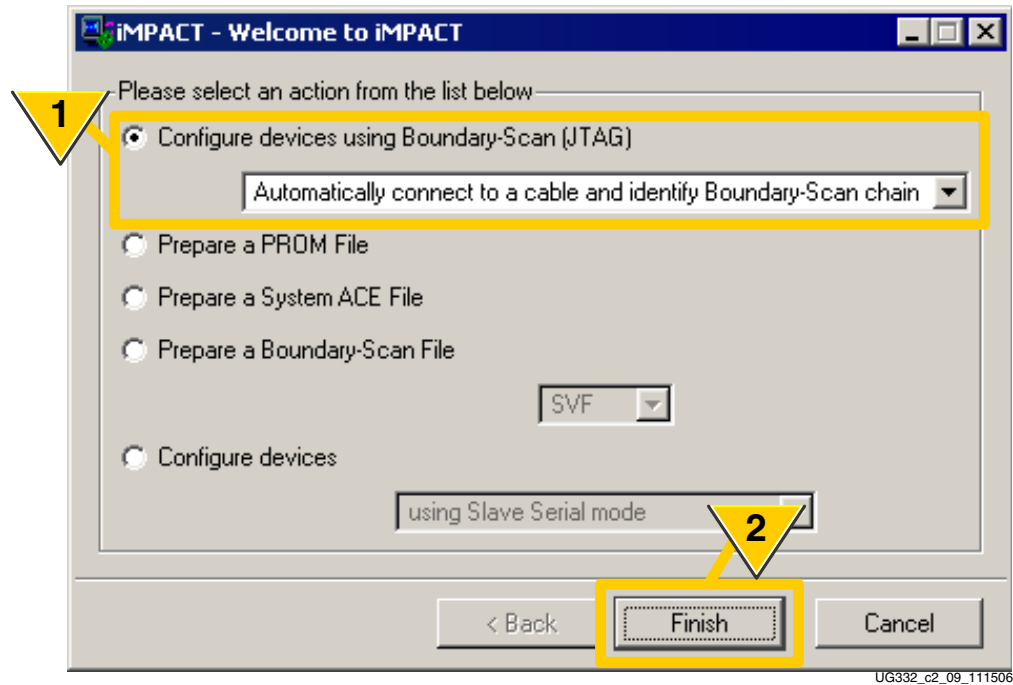

Figure 3-14: Program Platform Flash PROM using JTAG
1. Click **Configure devices using Boundary-Scan (JTAG)** from within iMPACT, as shown in Figure 3-14. If the **Automatically connect...** option is selected, iMPACT will query the devices in the JTAG chain and automatically detect the chain topology.